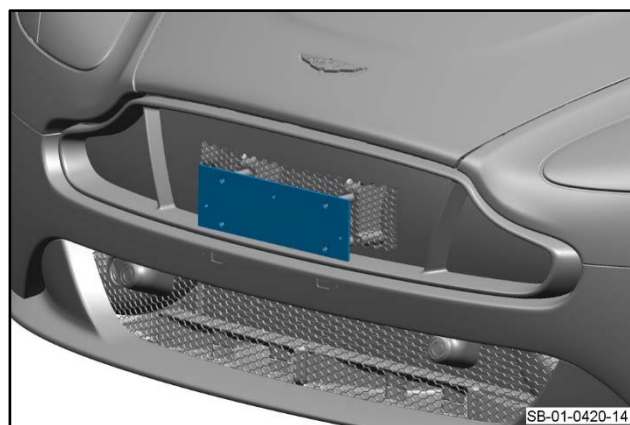

Figure 14
5. Put the bolster plate into position (refer to Figure 14).